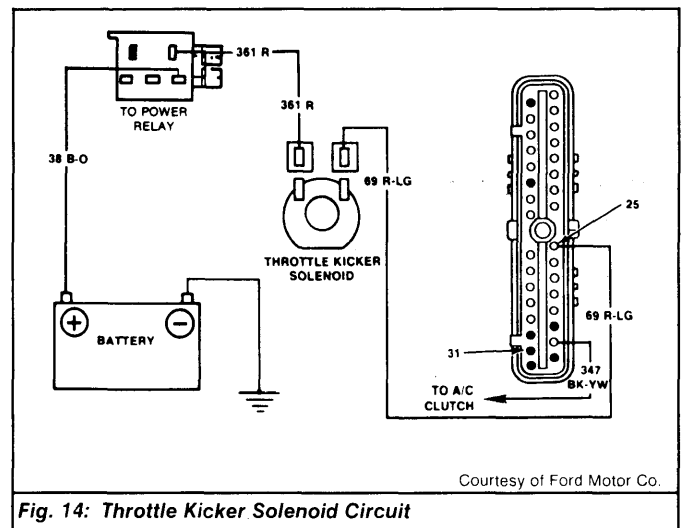

Fig. 14: Throttle Kicker Solenoid Circuit
- 3) Remember that the ECA completes the throttle kicker solenoid circuit by grounding Red/Light Green wire (circuit No. 69) coming from the throttle kicker solenoid. See Fig. 14.